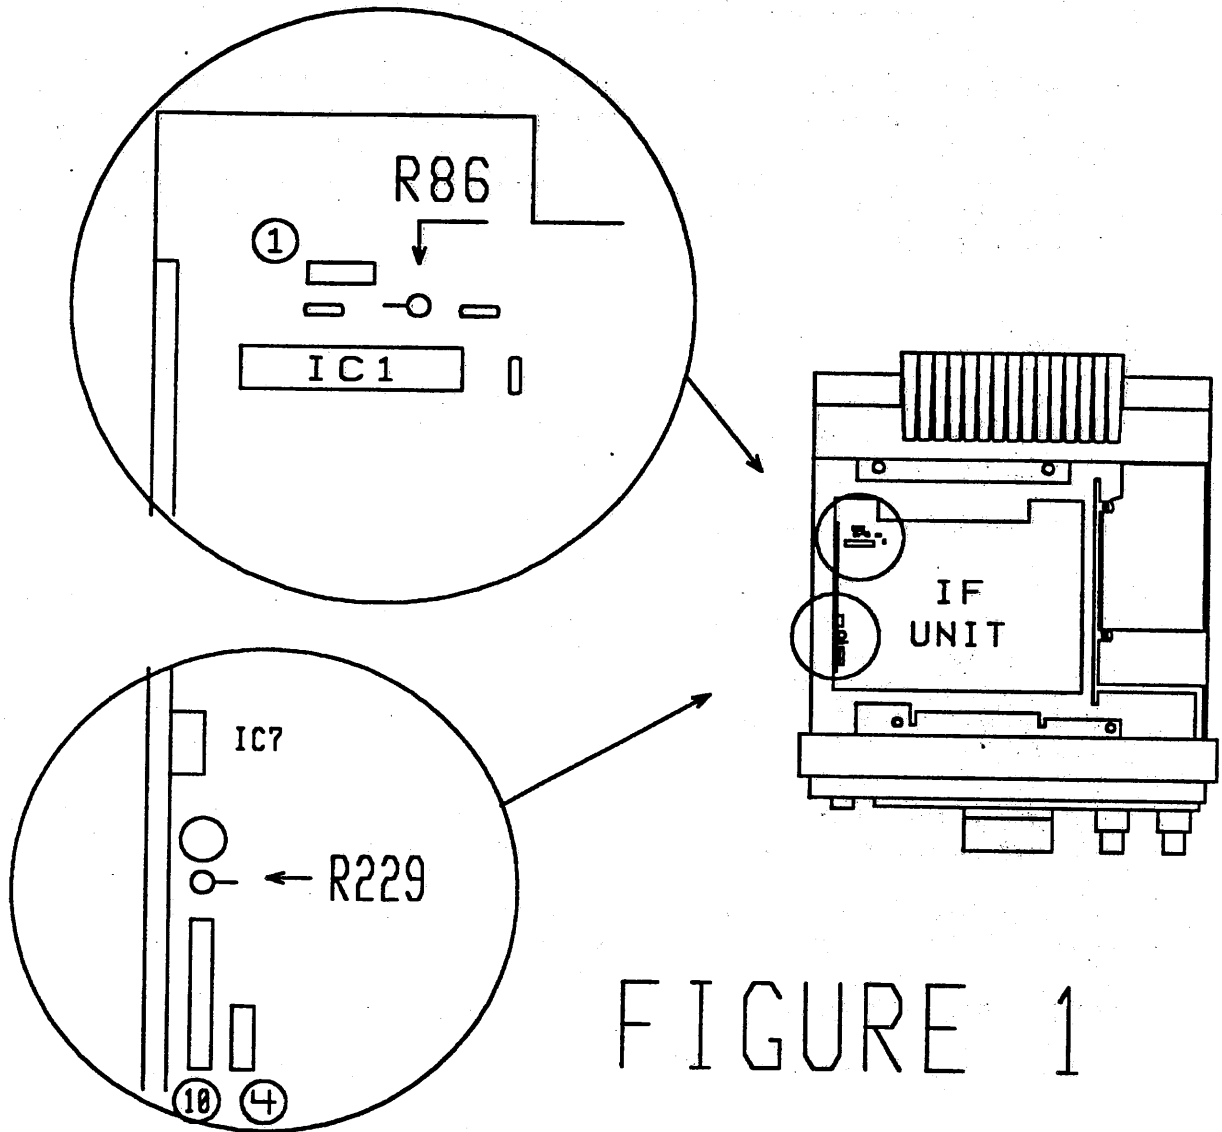

FIGURE 1
3. Locate resistors R86 and R229 on the component side of the IF board (Figure 1).